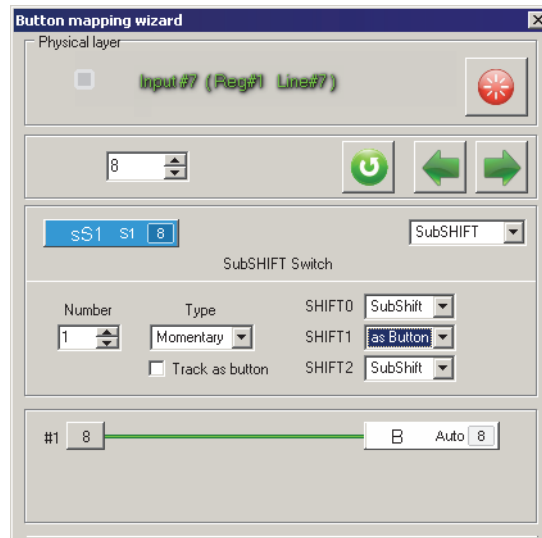

Fig. 4.14.
**Button Mapping Wizard** for **SubSHIFT** function has additional control items (Fig. 4.14).